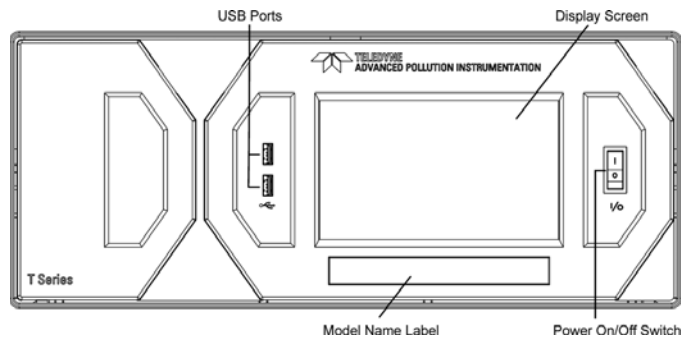

Figure 6.2 Front panel of the instrument.
- 6.2.5 Turn on the instrument once all connections are complete. The Power On/Off switch is located on the front panel (Figure 6.2).